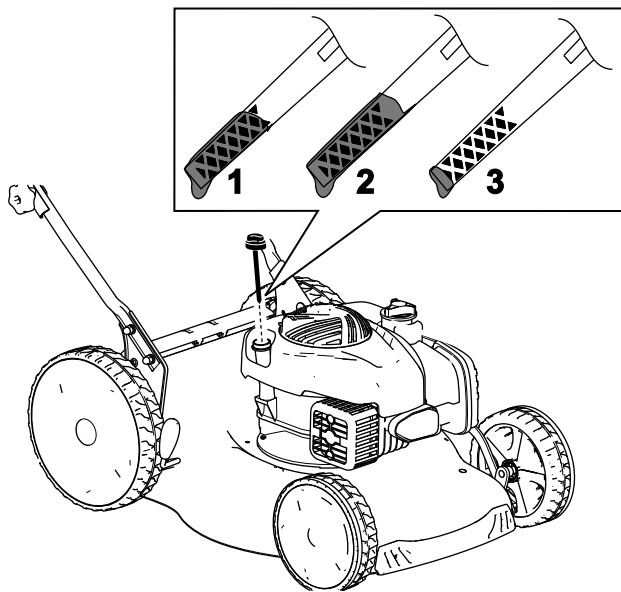

Figure 24
3. Remove the dipstick by rotating the cap counterclockwise and pulling it out (Figure 24).